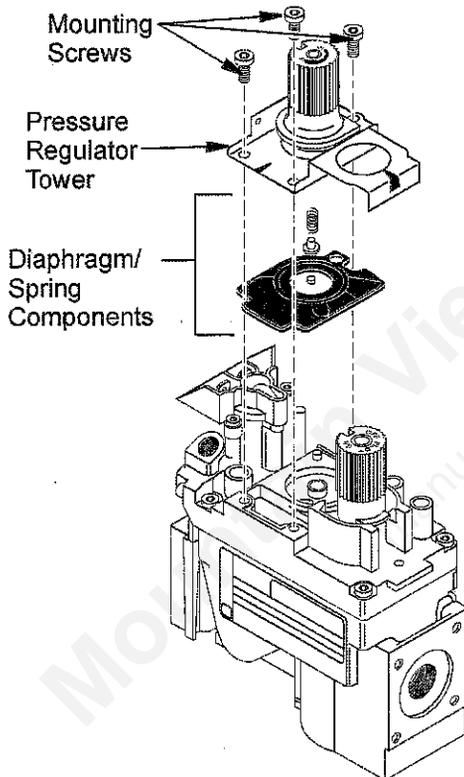

Figure 6 - Removing Mounting Screws, Pressure Regulator Tower, and Diaphragm/Spring Components
1. Using a TORX T20 or slotted screwdriver, remove and discard 3 mounting screws, pressure regulator tower, and diaphragm/spring components (see Figure 6).